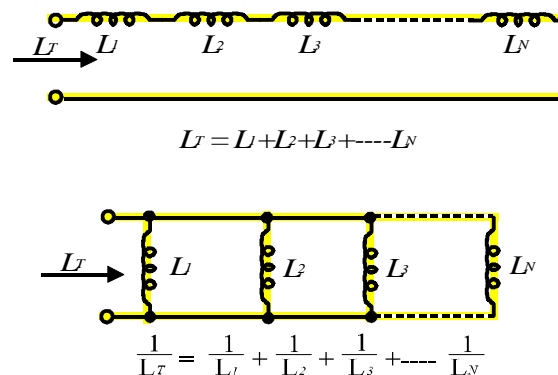

Figure 5, Inductors in Series and Parallel
Remember, an inductor is simply a coil of wire. The ability of a coil to oppose a change in current is a measure of the inductance L of the coil. Inductance is measured in henries (H). For inductors in series, the total inductance is found in the same manner as resistors in series, figure 5. Likewise, the total inductance of inductors in parallel is found in the same manner as resistors in parallel, figure 5. The main idea to remember here is inductors added in *parallel reduce* the total inductance and inductors added in *series increase* the total inductance.